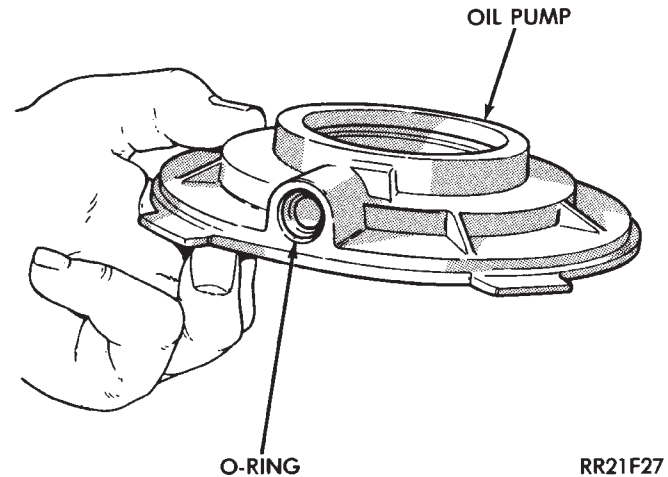

Fig. 16 Pickup Tube O-Ring Location
(10) Remove pickup tube O-ring from pump (Fig. 16) but do not disassemble pump; it is not a repairable part.
(11) Remove seal from oil pump with pry tool.